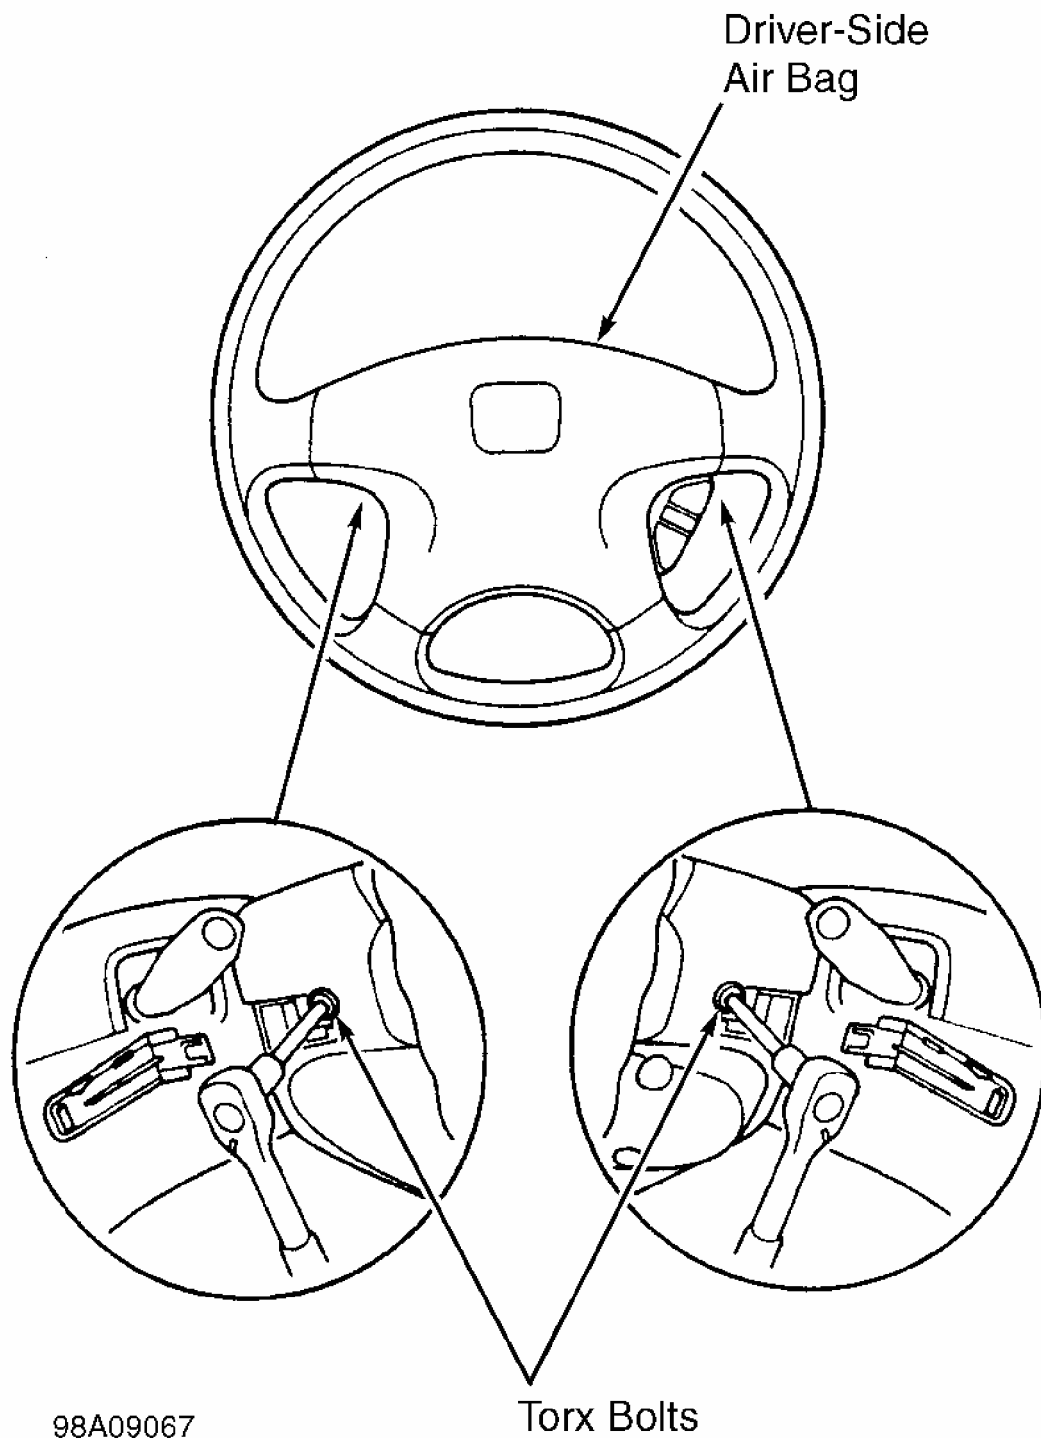
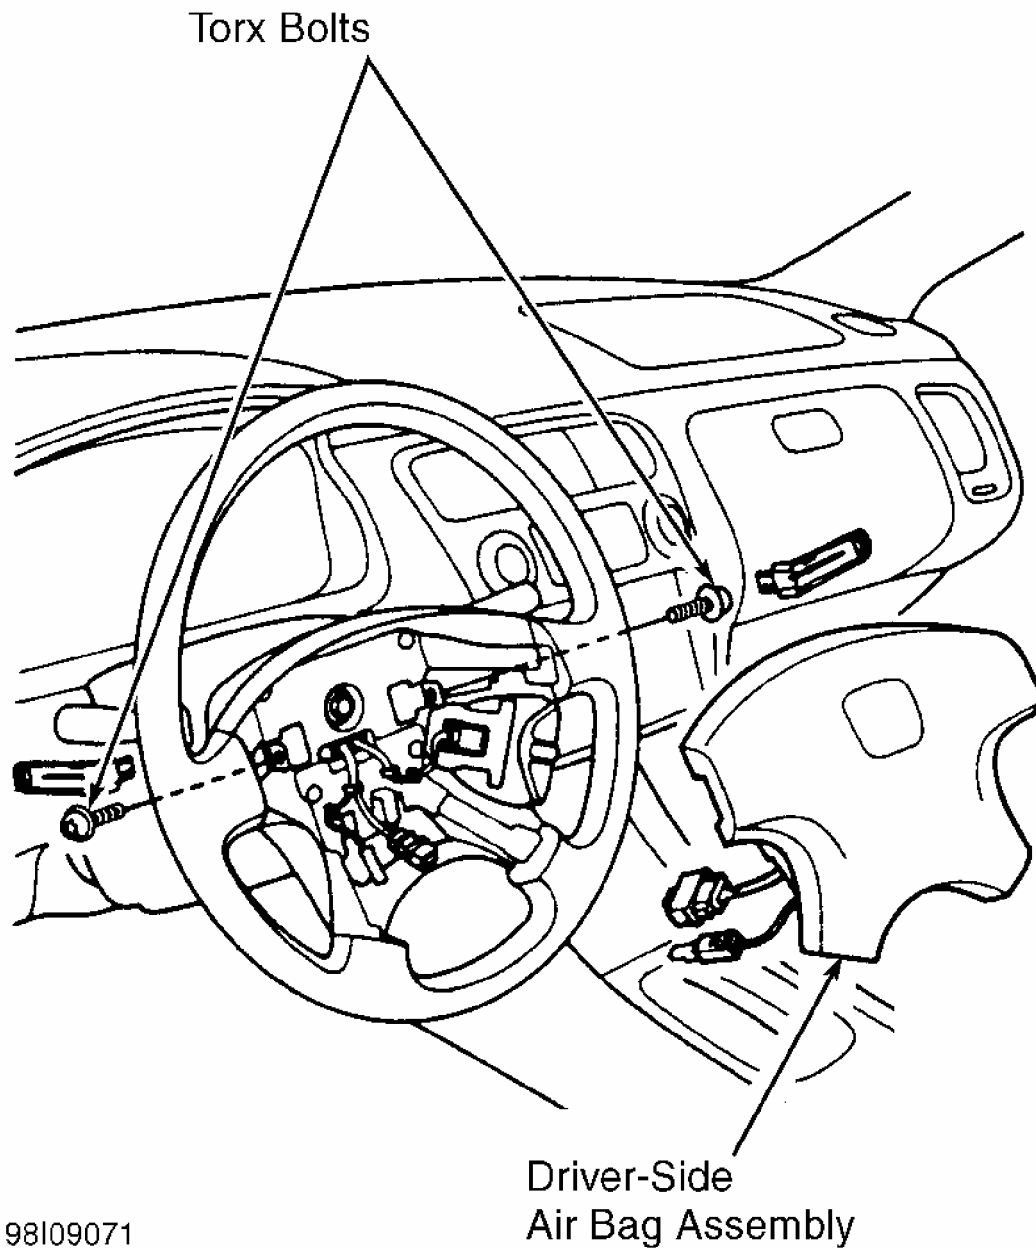

Fig. 13: Removing Driver-side Air Bag Torx Bolts
Fig. 14: Identifying Driver-side Air Bag Assembly
1. Before proceeding, see **AIR BAG SAFETY PRECAUTIONS** . Disable air bag system. See **DISABLING SYSTEM** under **DISABLING & ACTIVATING AIR BAG SYSTEM**. Using Torx T30 bit, remove and discard Torx bolts securing air bag assembly to steering wheel. See **Fig. 13** . Remove air bag module. See **Fig. 14** .